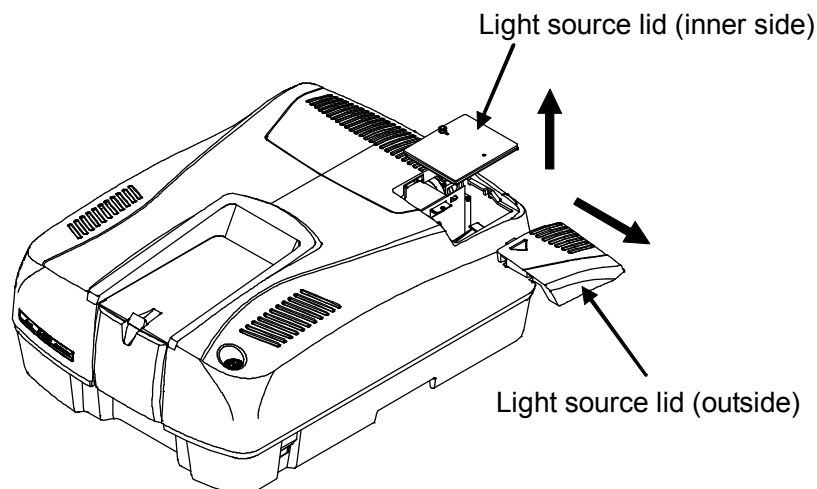

Figure 5.4 Removal of light source lid (V-650/660/670)
- (1) Slide the outer lid of the light source unit to remove it and then remove the inner lid (Fig. 5.4). The way to remove the lamp is the same for V-630, even though V-650/660/670 is shown in figure 5.4.
- (5) Set the wavelength to 500 nm.
- (6) Slide the lid of the light source unit to remove it (see Fig. 5.4).
- (5) Set the wavelength to 250 nm.
- (6) Slide the lid of the light source unit to remove it (see Fig.5.4).
(4) Slide the lid of the light source unit to remove it (see Fig.5.4).